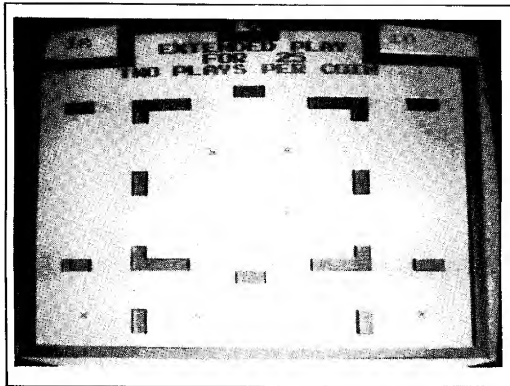

Figure 2-1 Attract Mode
A. ATTRACT MODE (See Figure 2-1)